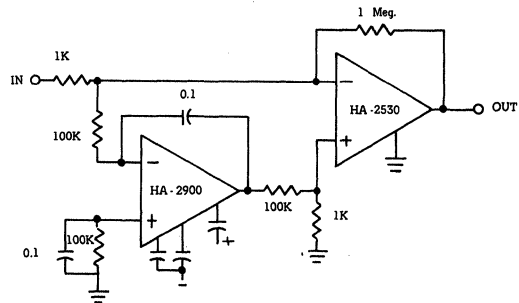

Figure 14
Figure 14 illustrates an excellent combination of characteristics for use wherever inverting amplifier applications are required. Features of the composite amplifier include: slew rate:  $300\text{V}/\mu\text{s}$ , gain bandwidth product: 10-500 MHz, D.C. gain:  $10^{13}$ , offset voltage drift:  $0.3\mu\text{V}/^\circ\text{C}$ , bias current drift:  $50\text{pA}/^\circ\text{C}$ , input noise (0-1 KHz):  $5\mu\text{V}$  peak to peak.
- Obtain the value of  $4KTR_g$  from Figure 14, and enter it on line (c) of the table. This is constant for all frequencies. The  $4KTR_g$  value must be adjusted for temperatures other than normal room temperature.